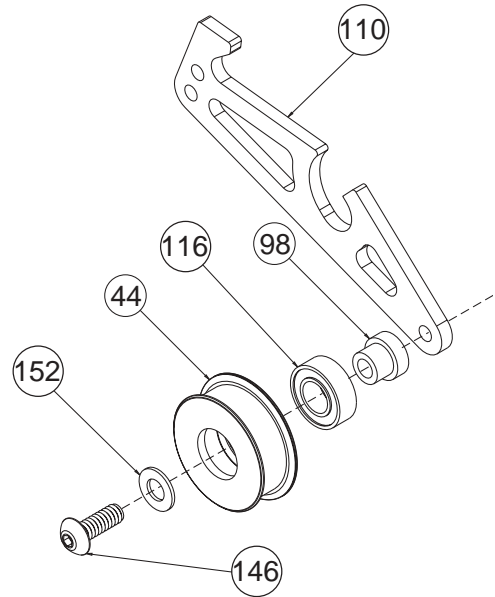

Figure 20
- ❑ 1. Snap a 3/16" x 3/8" Bearing (116) into the right side of the Idler Pulley (44). The Bearing will snap past the ridge and stop.
- ❑ 2. Place the Idler Pulley Shaft (98) through the Idler Pulley from the Bearing side.
- ❑ 3. Slide a #4 x .020 Washer (152) over the 4-40 x 5/16" Button Head Screw (146).
- ❑ 4. Insert the 4-40 x 5/16" Button Head Screw through the Idler Pulley and thread it into the Belt Tensioner Arm (110) positioned as shown in Figure 20.